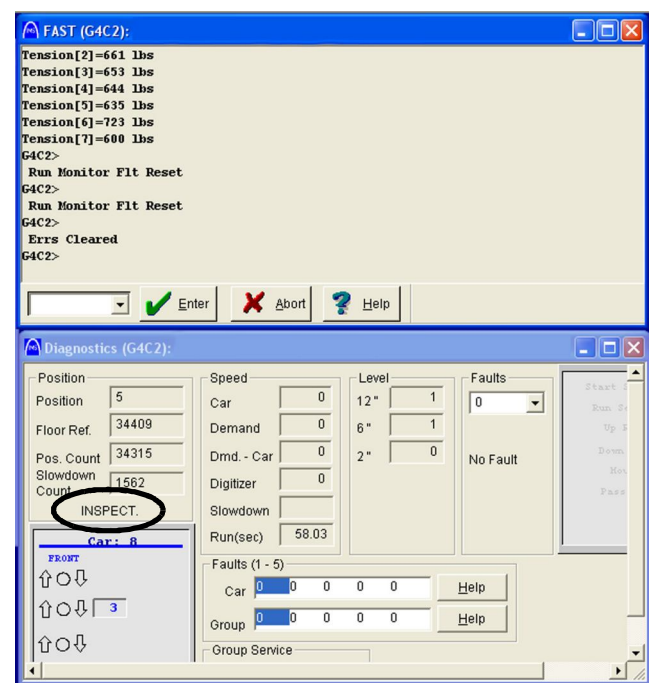

Figure 8 - Inspect Status
13. Enter the RRF command in the Remote Fast of IMS to reset the Run Monitor. The status in the Motion Diagnostic window will change to "INSPECT". See Figure 8.